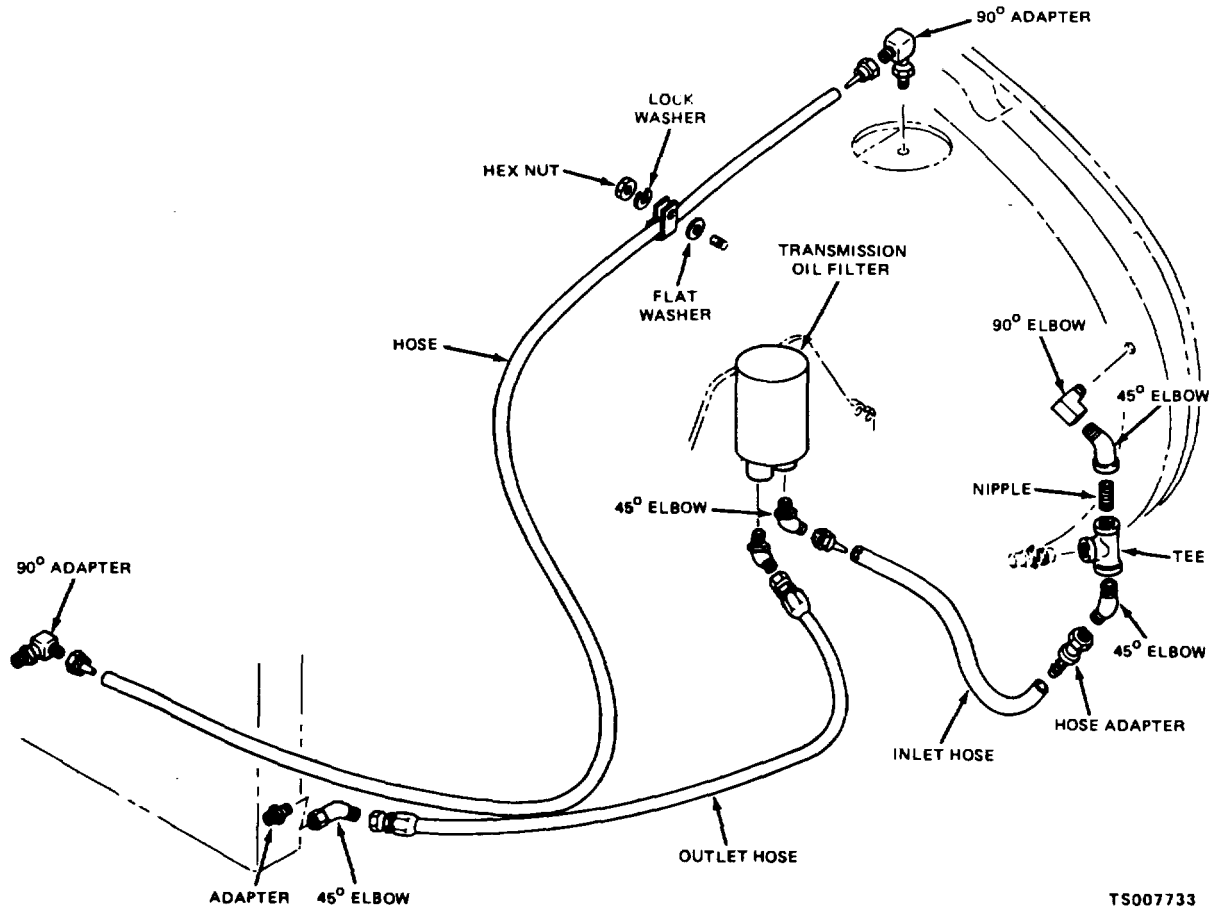

Figure 4-60. Transmission Oil Filter, Lines and Fittings, Removal and Installation
*b. Removal and Disassembly.* Remove and disassemble the transmission oil filter and lines as shown in figure 4-60.
(4) Inspect the hoses for cracks, deterioration, abrasions, and damaged threads; replace damaged hoses.
(5) Inspect all other parts for cracks, distortion, and damaged threads; replace damaged parts.
d. *Reassembly and Installation.* Reassemble and install the transmission oil filter and lines as shown in figure 4-60, using a new filter element and gasket. After installation, start up the engine and check carefully for oil leaks. Repair any leaks and add oil as necessary.